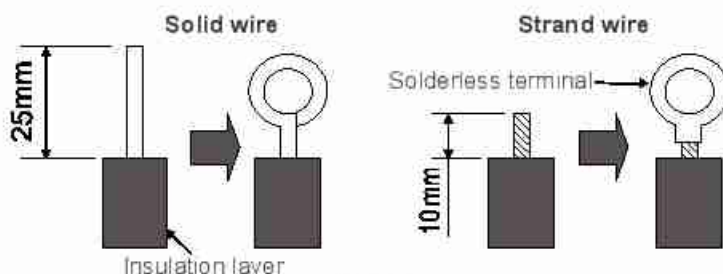

Fig.13
(1). For solid core wiring (Fig.13)
(2). For strand wiring (Fig.13)